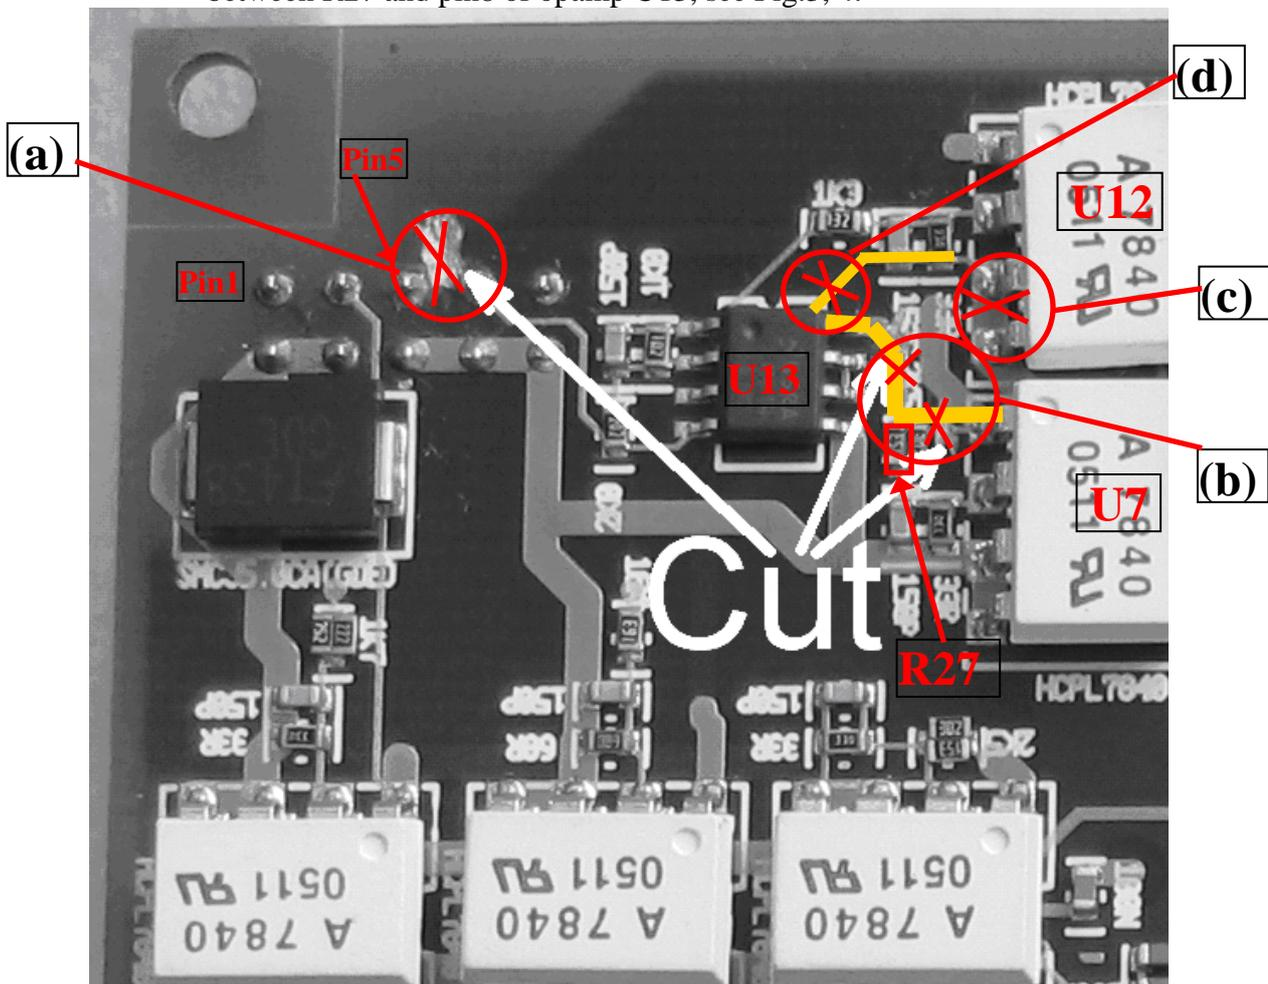

Fig.3: Bottom side photos of ELMB_MBv6.5. Cutting traces on bottom side.
- (a) Cut +5VMB pcb trace from pin5 on connector J12 on the ELMB_MB bottom side, see Fig.3. The pcb trace is under the surface level, so a milling cutter has to be used.
- (b) Cut two traces, between R27 and pin1 of U7 isolation amplifier, and pcb path between R27 and pin8 of opamp U13, see Fig.3, 4.
- (c) Cut trace between pin3 and pin4 of U12 isolation amplifier, see Fig.3, 4.
- (d) Cut trace going to gnd from C22 and R38, see Fig.3, 4.
Fig.4: Bottom side component placement detail of ELMB_MBv6.5, as shown as a photo in Fig 3. Marked components related to procedure 3 a – d are in red color: U13, C22, R38, R27, U12, and U7.